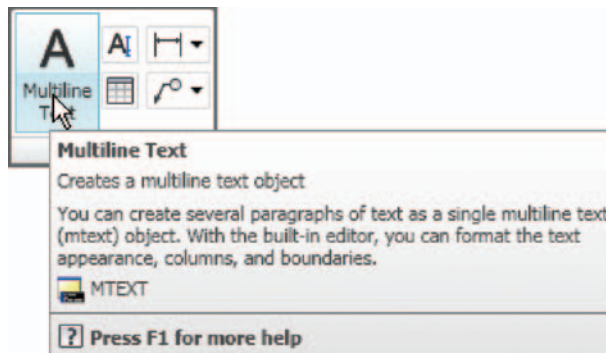

Fig. 6.22 Selecting **Multiline Text...** from the **Home/Annotation** panel
2. Either *left-click* on the **Multiline Text** tool icon in the **Home/Annotation** panel (Fig. 6.22) or *click* on **Multiline Text...** in the **Draw** toolbar or *enter* **t** at the command line: